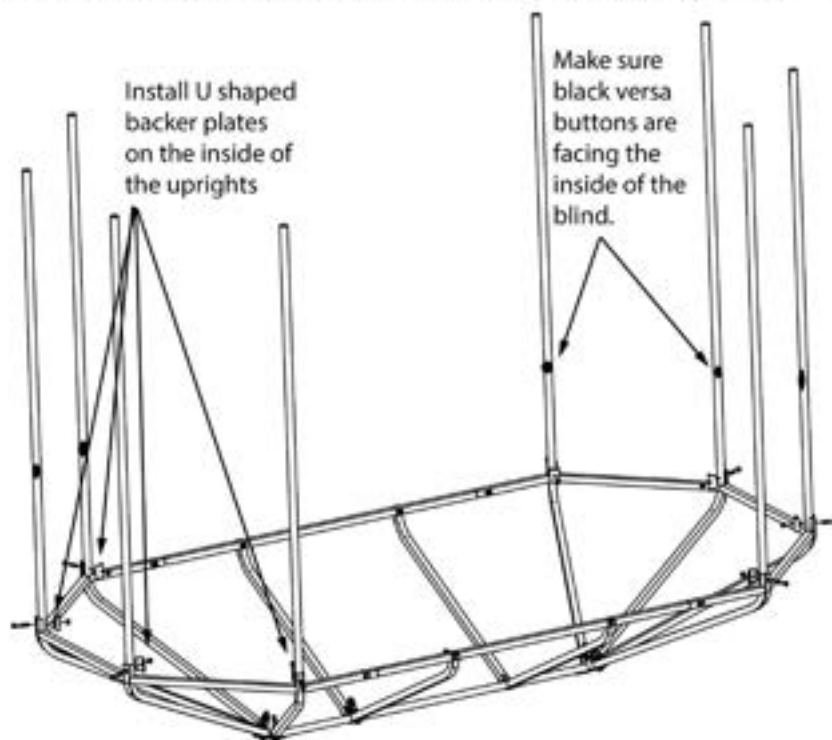

Figure 5-B
**Step 5.** Turn the roof assembly upside down and install the long uprights onto the roof assembly using eight  $\frac{1}{4}$  x 1-3/4" socket head bolts, eight U shaped backer plates and eight nuts as seen in Figure 5-A. Make sure versa buttons are facing the inside of the blind as seen in Figure 5-B